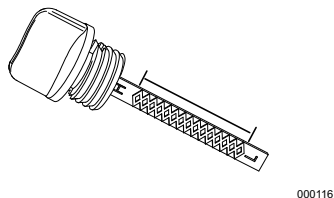

Figure 4-2. Safe Operating Range
4. See Figure 4-2. Screw dipstick into filler neck. Verify oil level is within safe operating range.